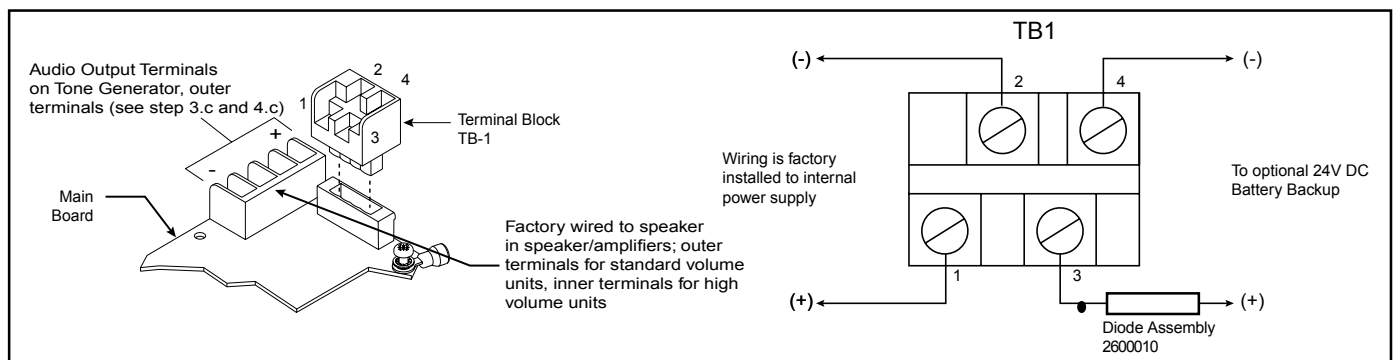

Figure 7. Wiring to Tone Generator Terminal Blocks
- b. See Figures 7, 12, 13, 14 and 15. Connect audio output (+) from the main board of the tone generator to the AUD (+) terminal on the Speaker/Amplifier Audio Coupler Board. Connect audio output (-) from the main board of the tone generator to the AUD (-) terminal on the Speaker/Amplifier Audio Coupler Board. Use shielded cable and connect braid or drain to earth-ground wire lead of 5540 Tone Generator. Up to 2500 Speaker/Amplifiers can be so connected in parallel to a single tone generator.
- e. Optional. Connect external 24V DC battery (not supplied) in series with separate diode assembly part 2600010 (supplied) to TB1 terminals 3 and 4 on the main board as shown in Figure 7 and marked on the diode assembly.
NOTE: *Terminal Block TB1 can be unplugged from the main board to complete wiring as shown in Figure 7.*
- g. Optional. Wire 24V DC battery backup to TS1-1 and TS1-2 of the Speaker/Amplifier per Figure 18 and connect 24V DC battery backup in series with diode assembly part 2600010 (supplied) to TB1 terminals 3 and 4 on the main board of the tone generator per Figure 7. Polarities must be observed.